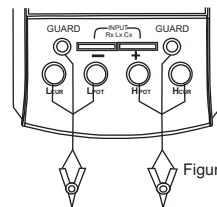

Figure 5
- b) When using  $L_{CUR}/L_{POT}/H_{POT}/H_{CUR}$  terminals insert the black and red testing lines with alligator clip into the "LCUR", "LPOT", terminal and "HCUR", "HPOT" terminal respectively. (shown in figure 5).